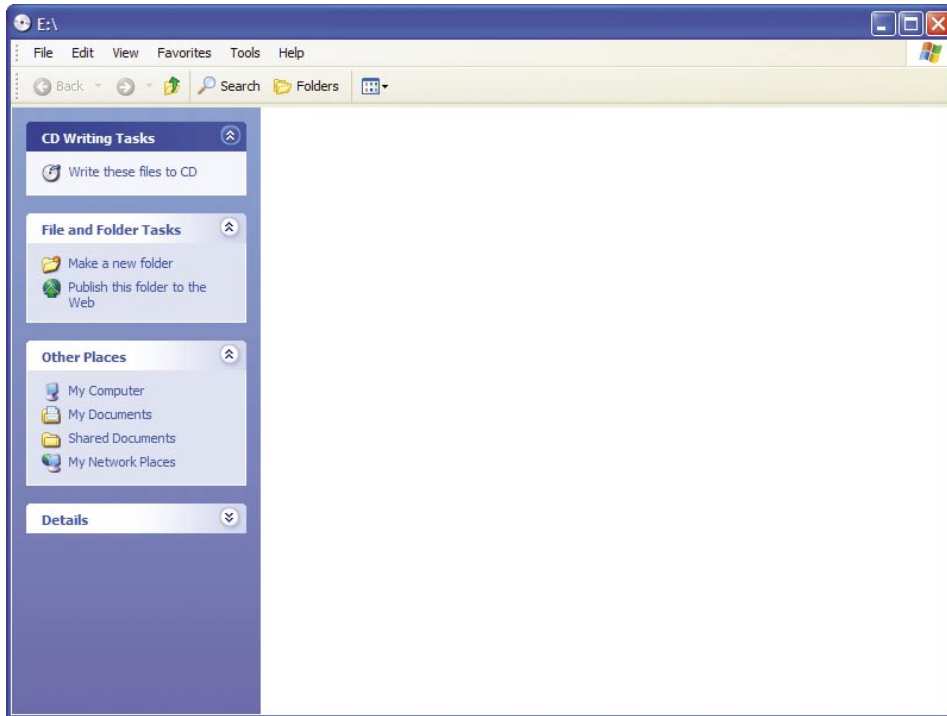

Figure 4.3. Windows Explorer will start you out with a clean slate.
2. Make sure that Open Writable CD Folder Using Windows Explorer is highlighted (it should be by default) and click **OK**. A blank folder will appear (Figure 4.3). Minimize the folder.